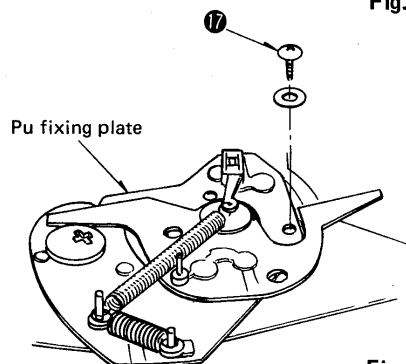

Fig. 8
• How to remove the Pu fixing plate (Fig. 8)
3. Remove the setscrew ⑰ of the Pu fixing plate.